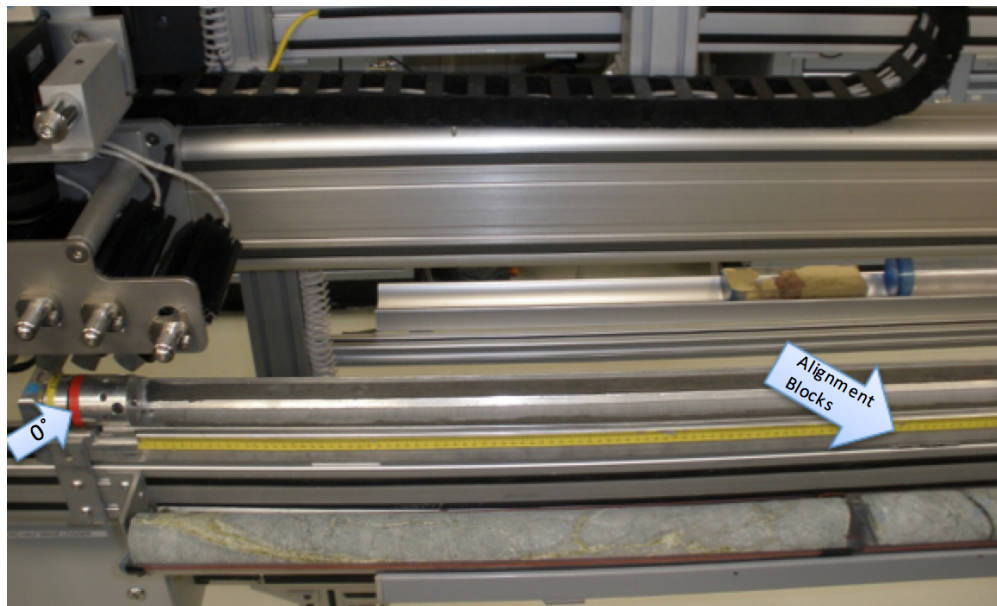

Figure 13. Alignment blocks position for whole round imaging
1. Remove the section half scanning tray from the SHIL and replace it with the whole round scanning tray making sure to align the blocks correctly (Figure 13). Note that the rotating section of the tray has 0°, 90°, 180°, and 270° markings on each end and that the rotating section will click and lock into each orientation.